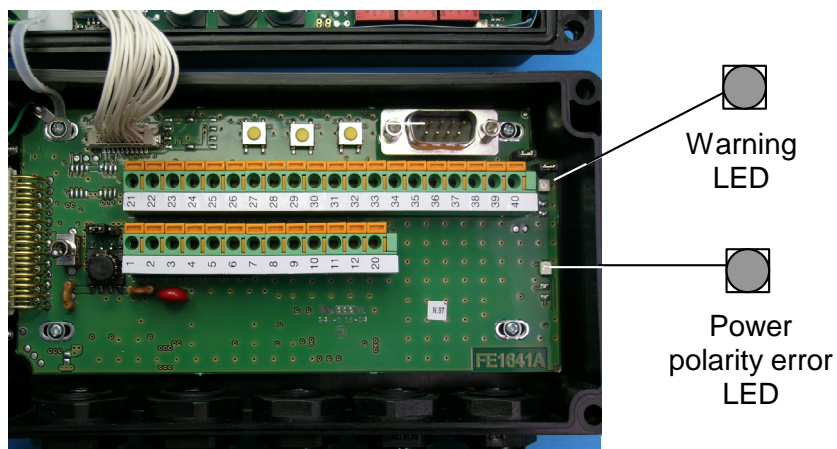

Figure 17 – Warning LED
*The C-Box 300 warning LED (Figure 17) is turned OFF at the end of each procedure.*